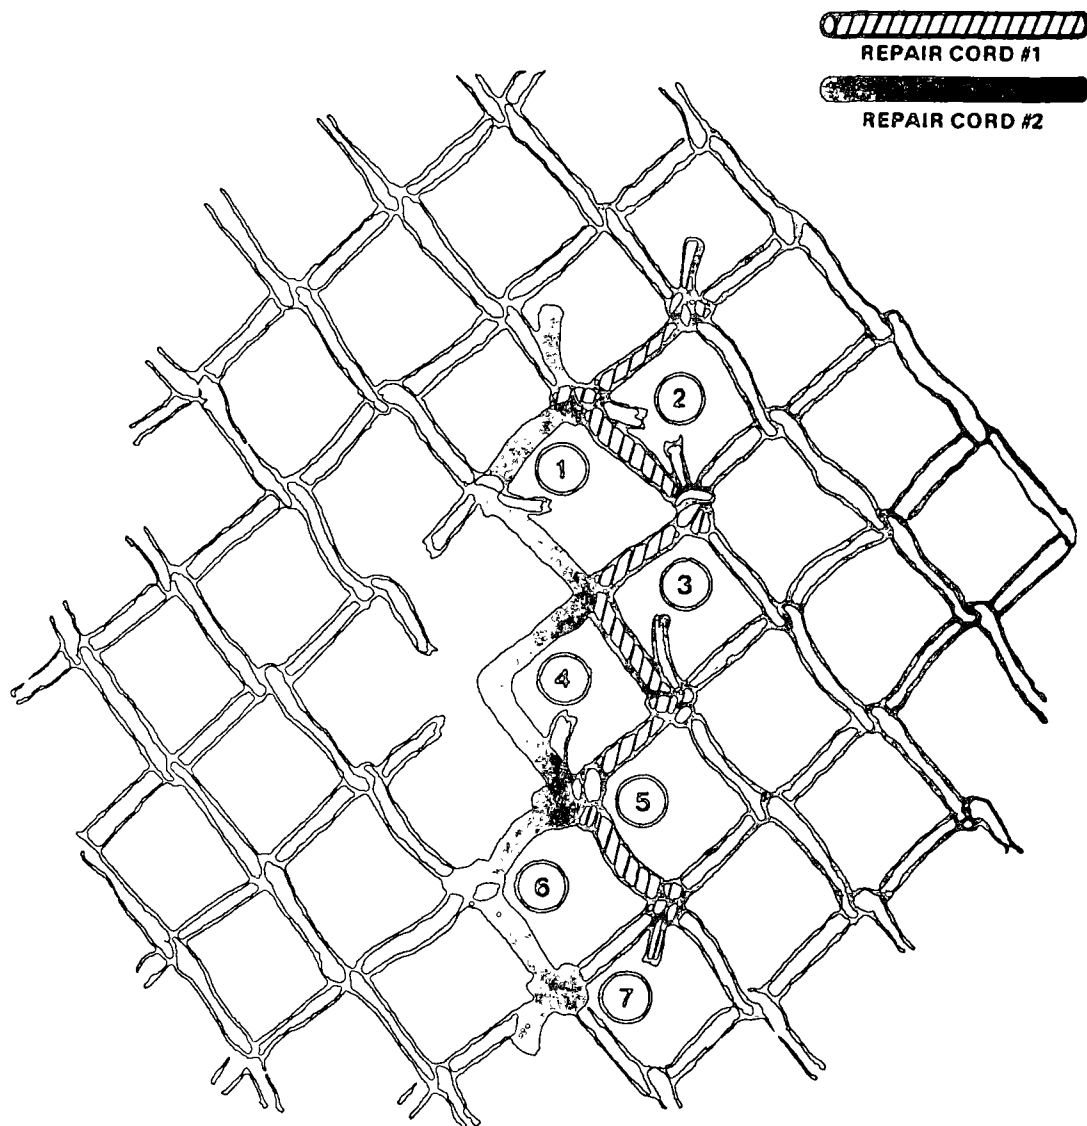

Figure F-13. Repair Cords 1 and 2
Step 3 - The second repair cord starts from the first repair cord (see Figure F-13).